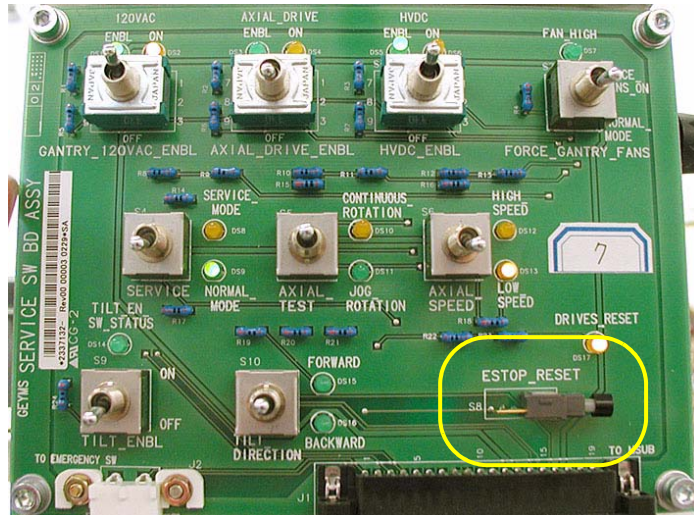

Figure 5-4 Service Switch Panel
- 5.) Push the Service Switch Panel reset button (see Figure 5-4).
- 11.) Press one of the RESET buttons to turn on X-RAY DRIVES POWER. (See Figure 5-4).